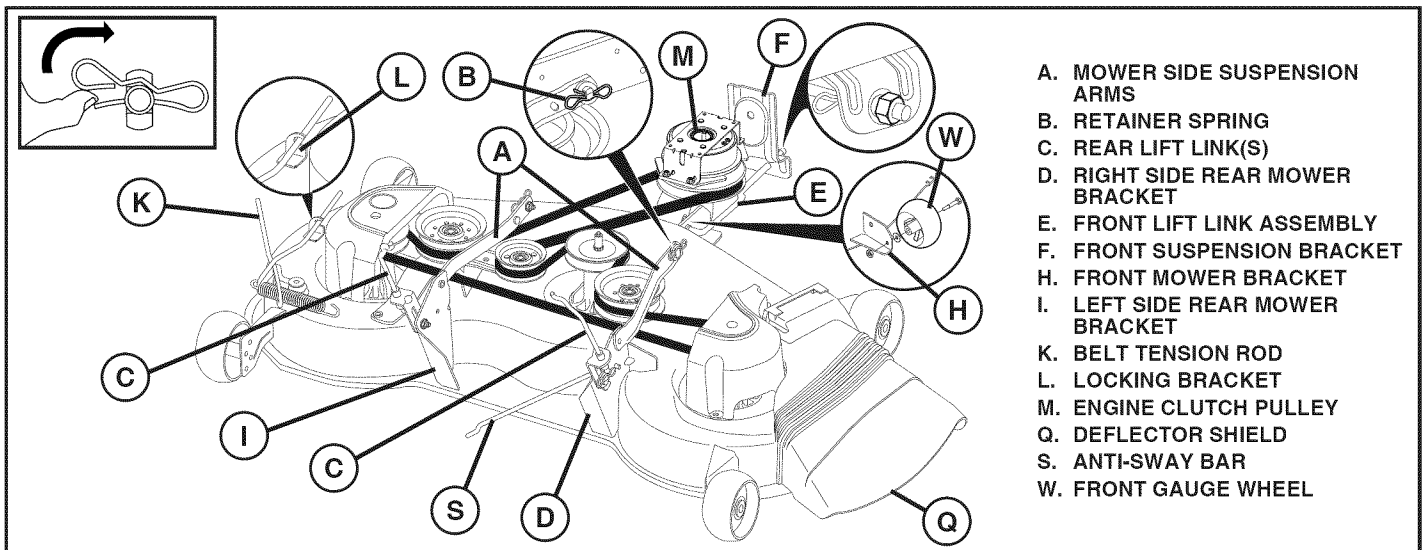

Fig. 27
## TO REMOVE MOWER (See Fig. 27)
## TO INSTALL MOWER (See Figs. 27 - 39)
## 9. INSTALL BELT ON ENGINE CLUTCH PULLEY (M) (See Fig. 27 & 39)
- Disengage belt tension rod (K) from locking bracket (L).
- Install belt onto engine clutch pulley (M).